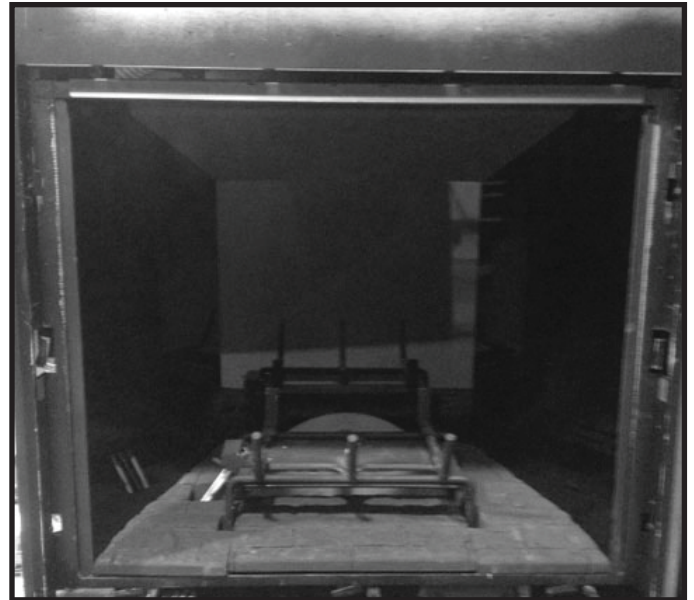

Figure 20. Finish Trim Installed
19. Figure 20 shows finish trim installed correctly.